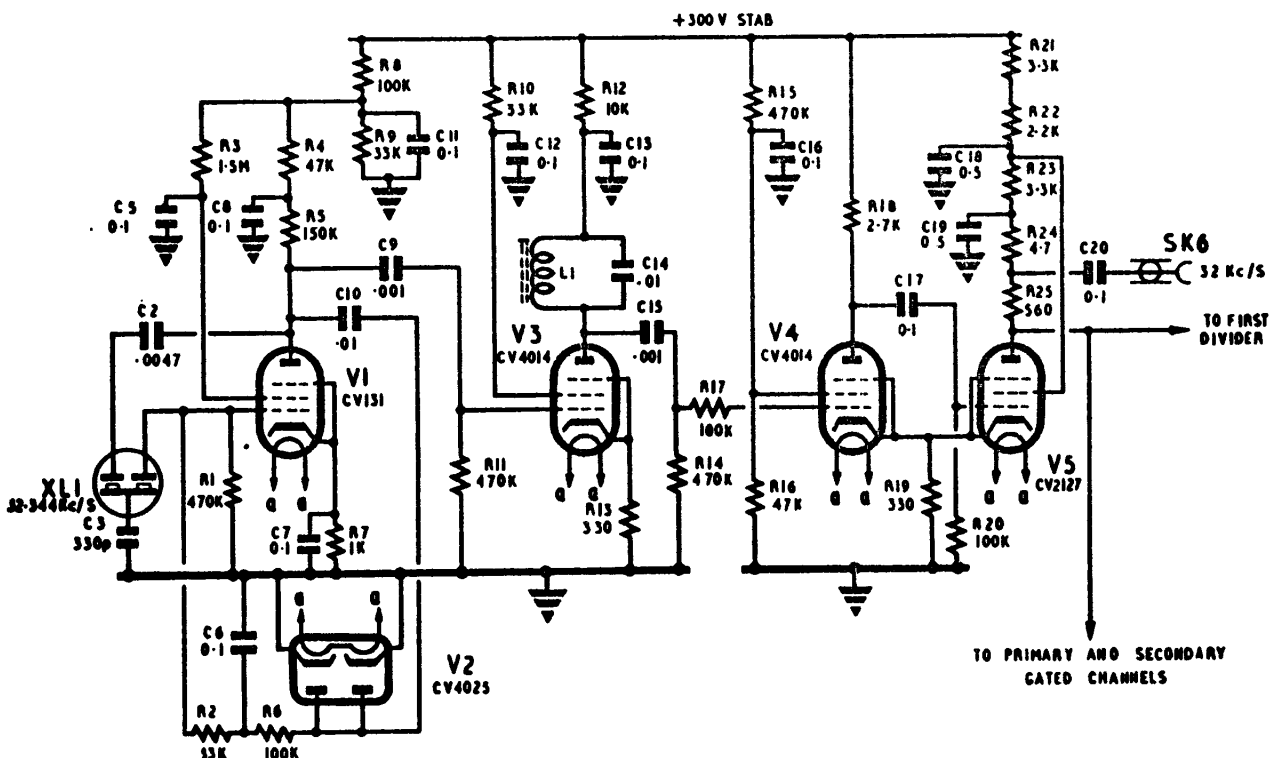

Fig. 5. Crystal oscillator and squarer circuit
16. A special type of crystal having a double resonator in a vacuum is used in the crystal oscillator circuit (fig. 5). Initially V1, a variable
17. From the anode of V3 the amplified sine wave is fed via C15 to the cathode-coupled regenerative squarer circuit of V4 and V5 (fig. 5). The anode loads of the two valves, R18 and R25, are low values to allow rapid transition of the circuit from one state to the other with consequent steep-edged output waveforms. The anode load of V5 actually consists of R25 in series with R24, the latter being a small fraction of the total. This permits the connection of an oscilloscope to the monitoring point SK6 without the extra stray capacitance affecting the circuit's action. The anode waveform of V5 (fig. 3) is fed to three circuits: to the two gate valves (V27 and V34) and to the first divider (V6).